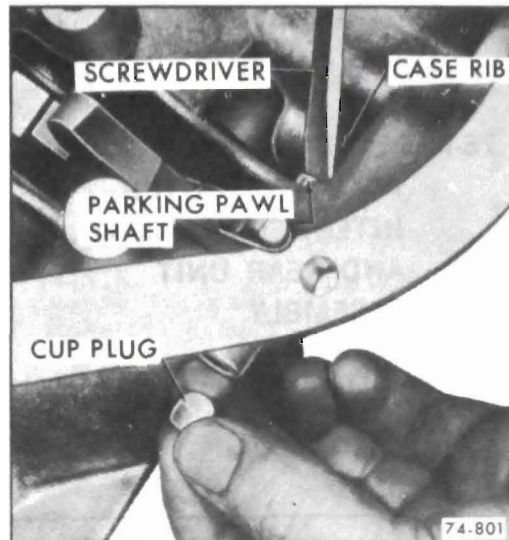

Figure 76-534
i. Remove parking pawl shaft cup plug by inserting a screwdriver between the parking pawl shaft and the case rib, and prying outward. See Figure 76-534.